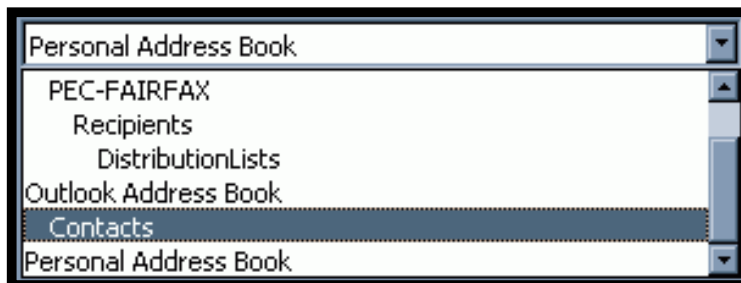

Figure 5.1.3-6: Contacts drop-down list
10. Under When sending mail, move *Contacts* to the top of the search order and *Global Address List* to the bottom. See Figure 5.1.3-5 above. Click *Apply*, and then click *OK*.